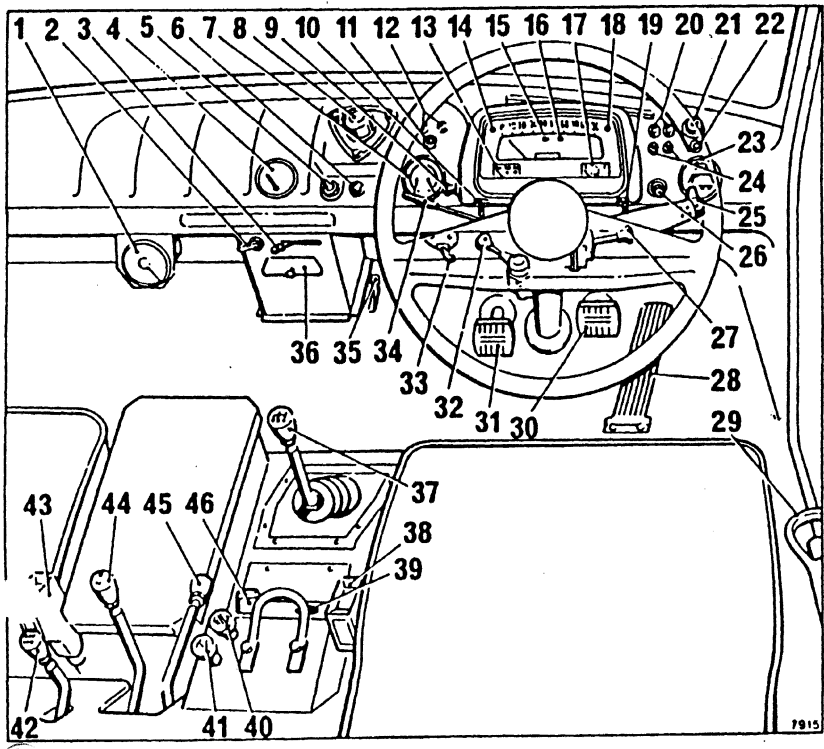

Fig 2 Instruments and controls
2. This switch (Fig 2(39)) is located on the engine compartment top panel, adjacent to the driver's seat. It is operated by a key and the first movement of the switch turns on the main circuits. Further rotation of the switch against the pressure of a spring operates the starter. When the switch is released it returns automatically to the running position.
Key to Fig 2